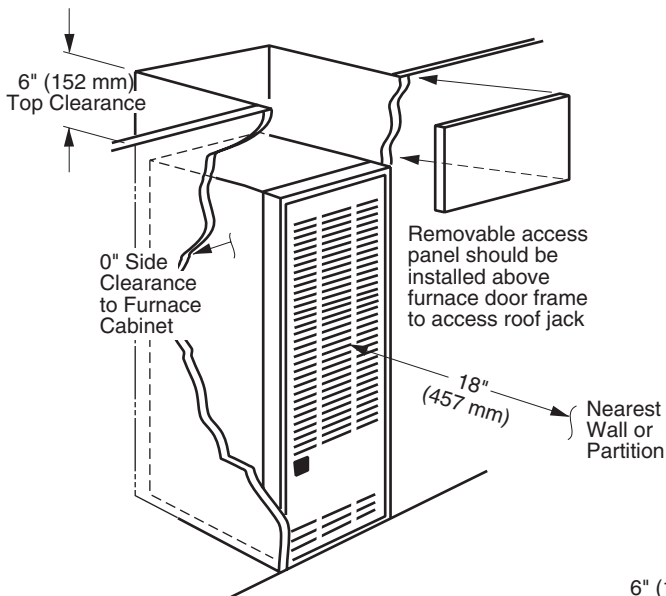
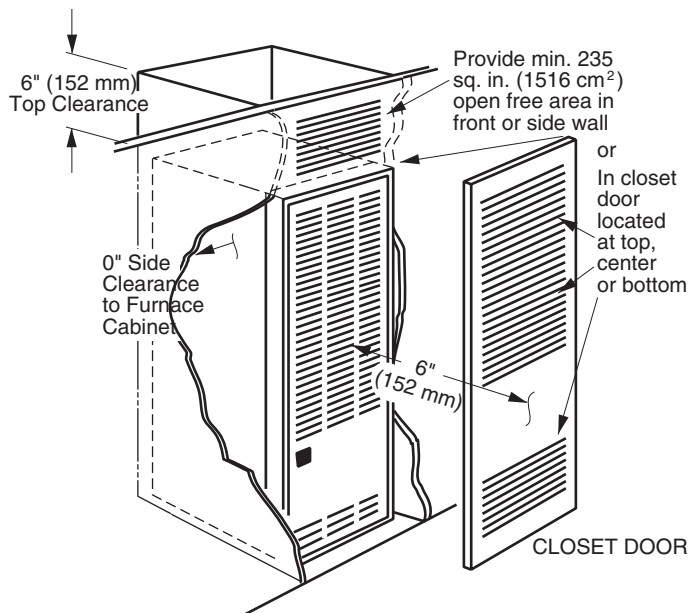
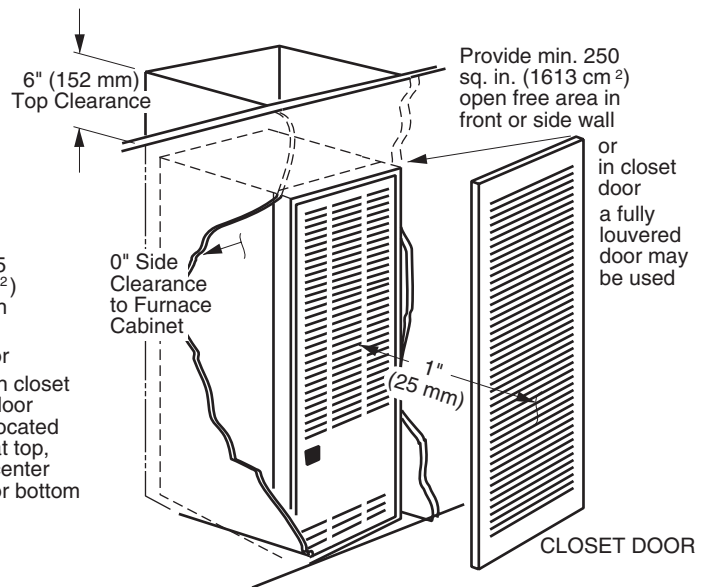

Figure 1. Alcove Installation
Figure 2. Closet Installation
Figure 3. Special 1" Clearance
This heating appliance must be installed with clearances not less than the minimums listed in Table 1, \(page 6\). This furnace must be installed with ample clearance for easy access to the air filter, blower assembly, burner assembly, controls, and vent connections. See Figure 1, Figure 2, and Figure 3.
- The dimensions of the room or alcove must be able to accommodate the overall size of the furnace and the installation clearances listed in Table 1, \(page 6\) and Figure 1 \(page 5\)